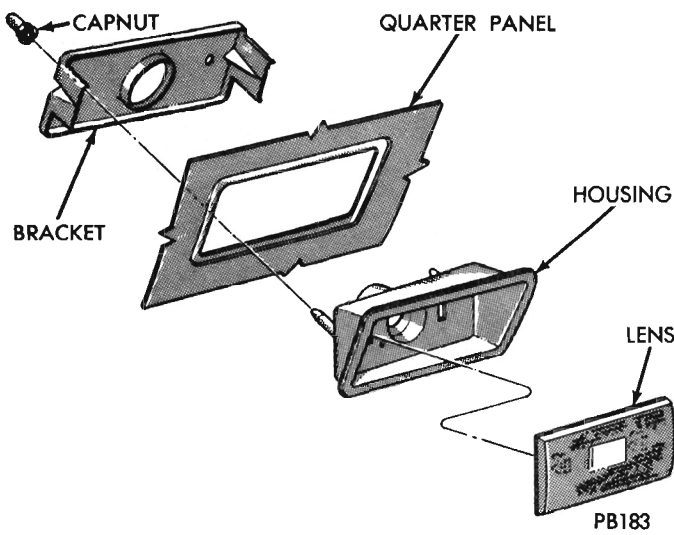

Fig. 1 - Rear Side Marker Lamp and Reflector - Valiant
**Rear Side Marker Lamp and Reflector-Valiant (Fig. 1).**
- (1) Working from inside trunk remove two capnuts from rear of housing bracket.
- (2) Disconnect lamp lead from harness and lift out lamp.